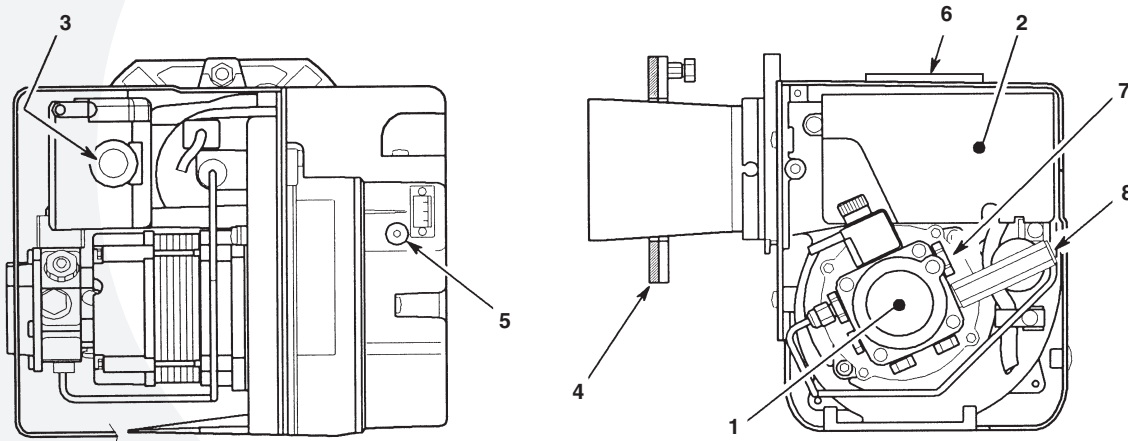

Figure 3-6: Riello RDB burner components
Remove the factory fitted air inlet spigot adaptor (item 6 in Figure 3-6 from the air intake on the top right hand side of the burner and fit the grey plastic air inlet grille in its place.